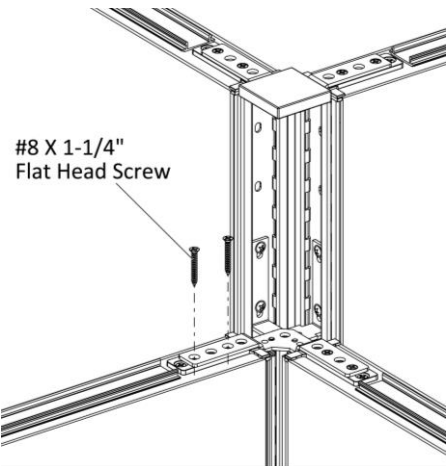

Figure 10
- Drive two #8 X 1-1/4" Flat Head Screws through the holes in the intermediate panel connector into the panels, (Figure 10).